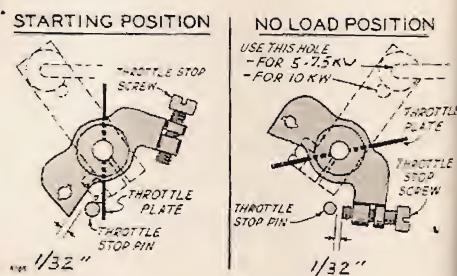

Fig. 18 Throttle Lever and Stop P
1. With the plant stopped, check the clearance of the carburetor throttle stop lever. The clearance between the lever and stop pin should be approximately  $1/32$ ", Fig. 18. This clearance can be adjusted by loosening the linkage ball joint and turning the ball joint on the linkage threads as necessary to lengthen or shorten the over-all length of the linkage. Be sure that the lever to which the link connects is securely